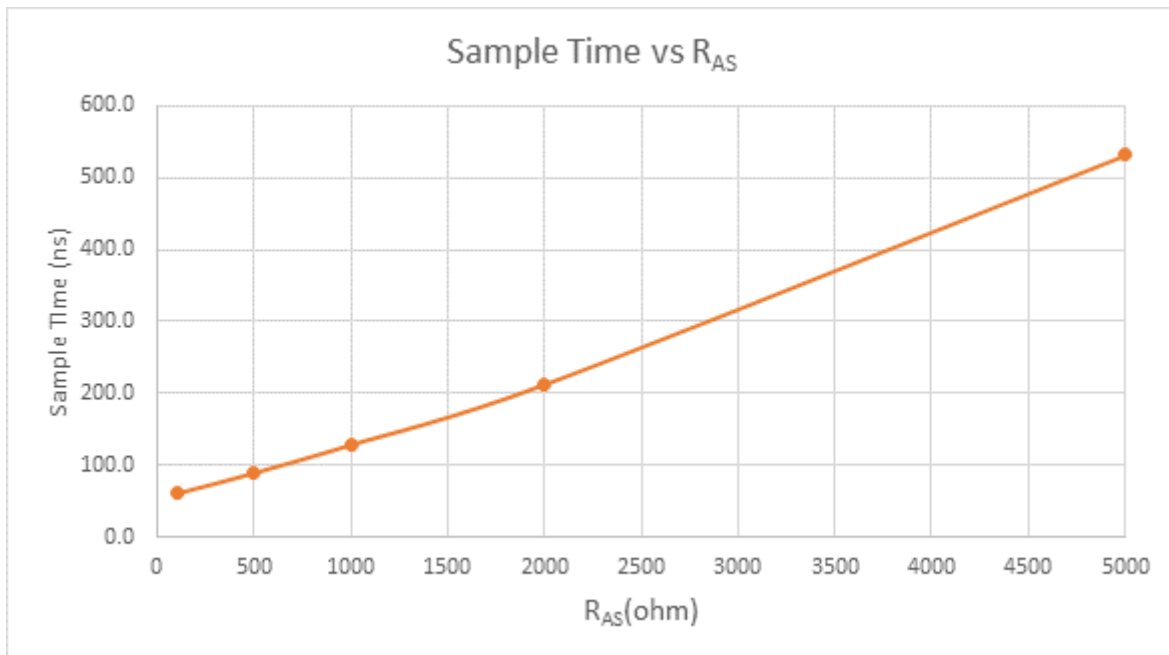

Figure 35. Sample time VS. R_{AS}
⁴ See Figure 35, "Sample time VS. RAS".
- ⁴ See Figure 35, "Sample time VS. R_{AS}".